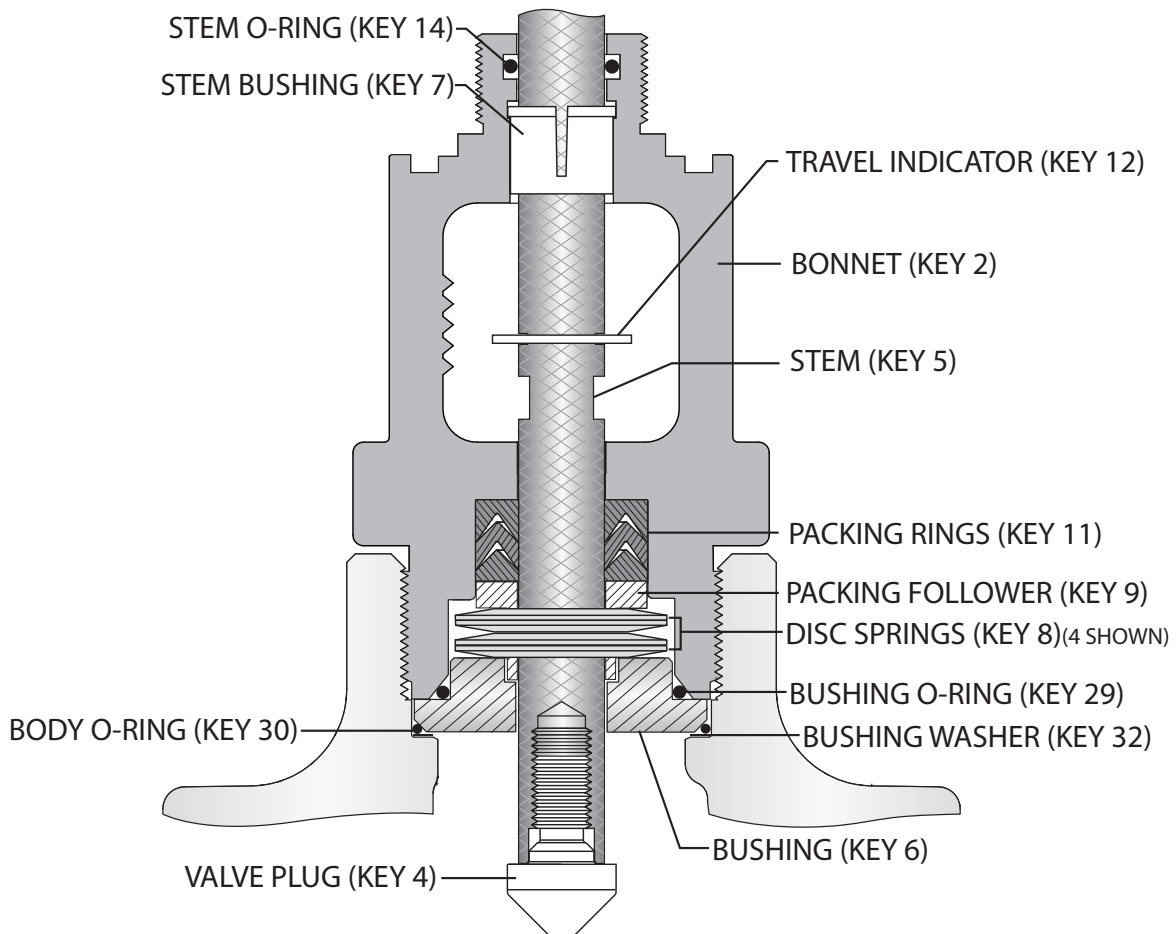

Figure 5 Packing Installation Diagram
Bonnet Sub-assembly (Reference Figure 5)
- 3 Lubricate the packing rings (Key 11) and install the packing rings into the packing bore as per Figure 5. Make sure the rings touch the spacer.
- 5 Install the 4 disc springs (Key 8), see Figure 5 for the order of installation.
- 6 Lubricate the bushing o-ring (Key 29) and slide it onto the bushing (Key 6) as shown in Figure 5. Insert the bushing with the bushing o-ring facing the Belleville washers (Key 8) into the bonnet (Key 2) so that the bushing (Key 6) has an approximate 0.80" gap between it and the bonnet (Key 2). See Figure 5 for detail.
- 7 Install the bushing washer (Key 32) on to the bushing seat inside of the valve body. See Figure 5 and 9 for detail.